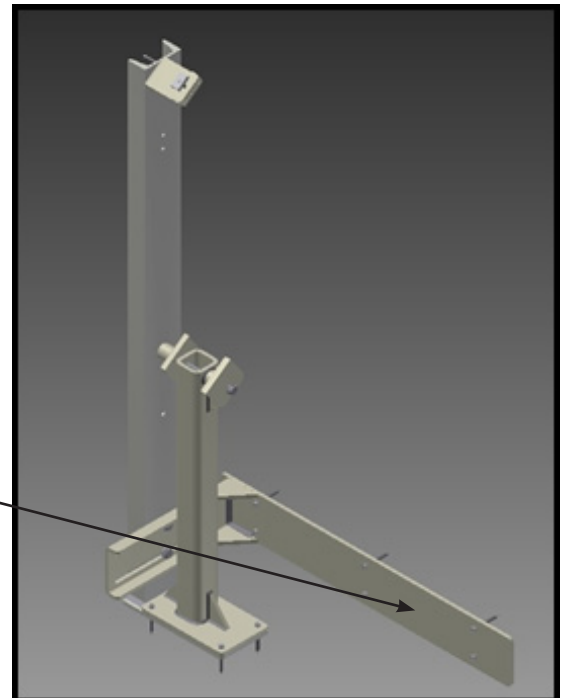

Figure 11-2
**2. Use if no wall is present thru the entire staircase and using free standing post.** *[Figure 11-2]*